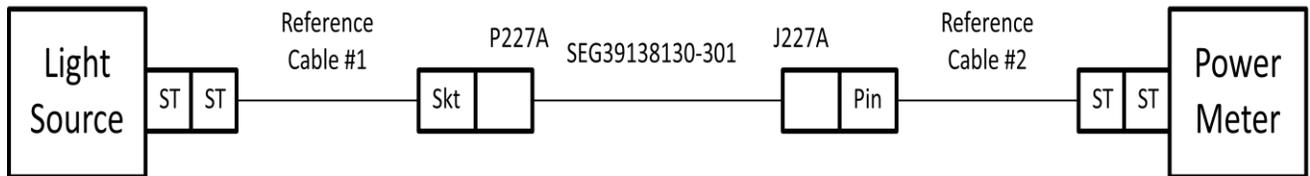

Figure 2. Insertion Loss Test P227A to J227A
2.1 Configure test setup per Figure 2.